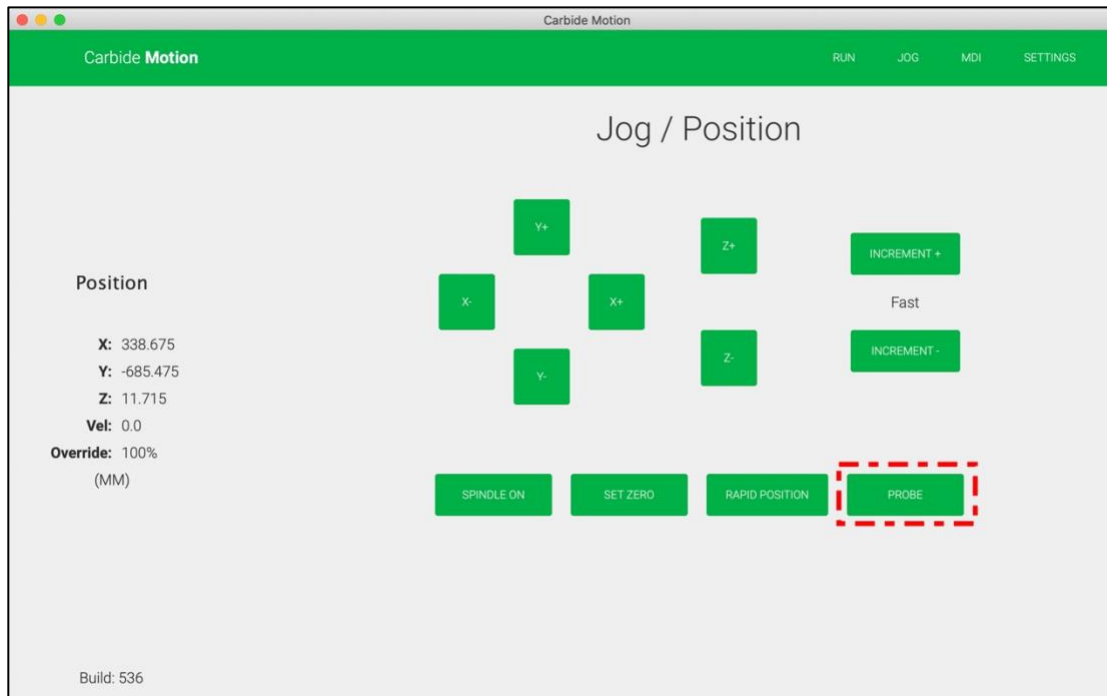

Figure 12
7. Click the **Probe** button to open the *Probe Workpiece* window. See **Fig. 12**.